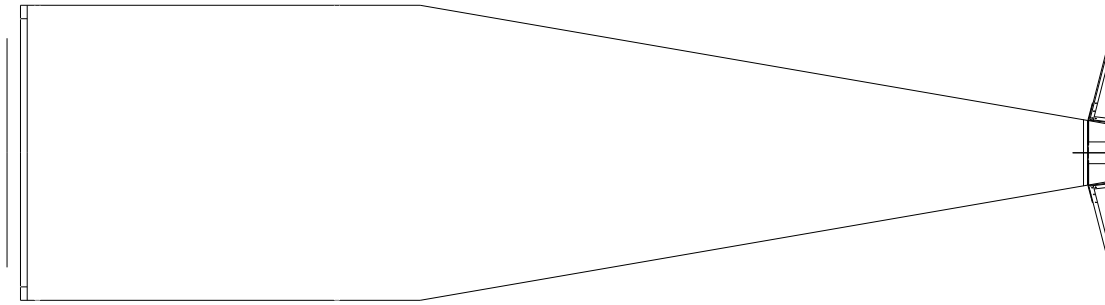

Figure 20.11.3
- 6) Locate and install cable guides for the rudder cable along the inside walls of the fuselage. Ensure cable clears the mixer controls. Keep cable as straight as possible. Figure 20.11.3.